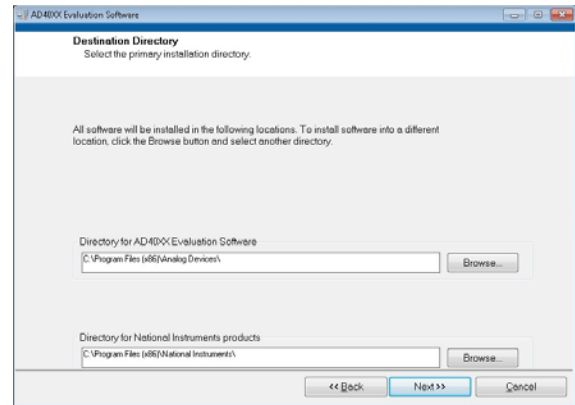

Figure 4. **Destination Directory Window**
2. Choose the folder location for installation and click **Next**. The default folder is shown in Figure 4.